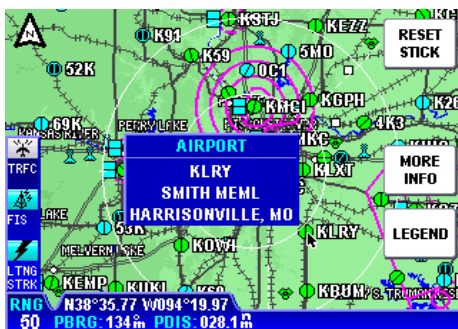

Figure 1-98
1. While on the Map Display, use the Joystick Pointer to select the desired destination as in Figure 1-98. The pointer can be placed anywhere on the map, not just used to select database items.